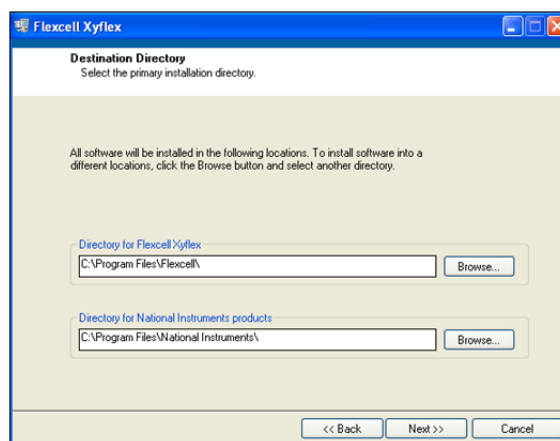

Figure 2. Destination directory
- 4) Select the destination directory to save all program files (**Figure 2**) and click *NEXT* to continue.